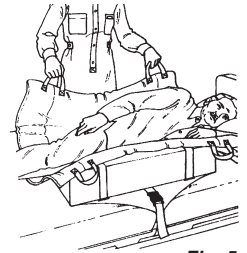

Fig. 5
- To facilitate turning resident, try the TLC Pad. (Fig. 5)